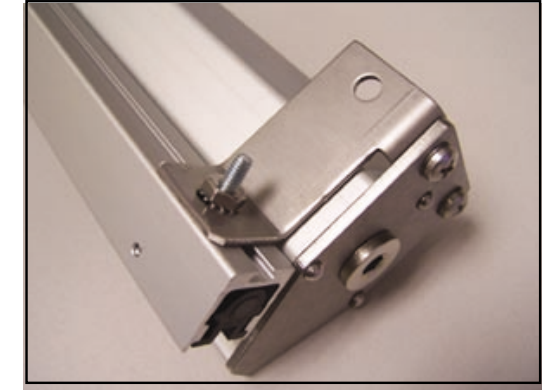

Fig.2
Mount the AK3200 Ionizing Air Knife as described in the 'Installing and Using the AK3000 High Performance Air Knife' section above. The (2) mounting holes at each end plate of the Air Knife will be occupied by screws used to secure the Static Bar onto the Air Knife. You can either piggyback onto those screws and/or use the (1) hole at the static bar mounting bracket at each end of the Ionizing Air Knife to secure it to the machine frame or a support structure. See Figure 2 below.